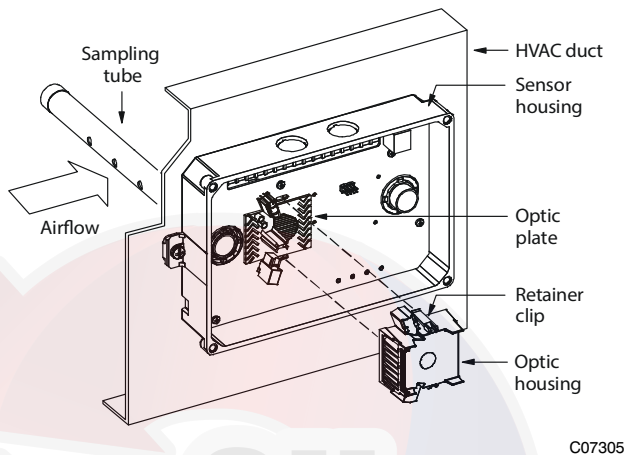

Fig. 41 – Sensor Cleaning Diagram
1. Disconnect power from the duct detector then remove the sensor's cover. (See Fig. 41.)